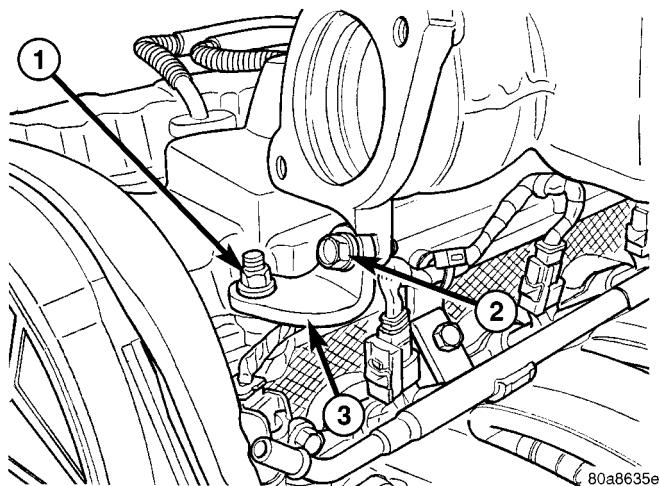

Fig. 109 Upper Intake Manifold Support Bracket
(9) Disconnect throttle and speed control (if equipped) cables from throttle lever and bracket. (Refer to 14 - FUEL SYSTEM/FUEL INJECTION/THROTTLE CONTROL CABLE - REMOVAL)
(10) Remove the EGR tube. (Refer to 25 - EMISSIONS CONTROL/EXHAUST GAS RECIRCULATION/TUBE - REMOVAL)
(11) Remove the upper manifold support bracket bolt to manifold (Fig. 109).
(4) Install engine oil dipstick.
(5) Install upper bolt in intake manifold to front support bracket (Fig. 109). Torque to 28 N·m (250 in. lbs.).
(6) Install EGR tube. (Refer to 25 - EMISSIONS CONTROL/EXHAUST GAS RECIRCULATION/TUBE - INSTALLATION)
(7) Install throttle cables in bracket.
(8) Connect throttle and speed control (if equipped) cables to throttle lever.
(9) Connect vacuum lines for power brake booster, LDP, EGR transducer, and speed control vacuum reservoir (if equipped) at upper intake manifold fittings.
(10) Connect vacuum lines for purge solenoid and PCV valve.
(11) Connect electrical connectors for MAP sensor, throttle position sensor (TPS), and idle air control (IAC) motor.
(12) Install air cleaner upper housing and air intake tube to throttle body.